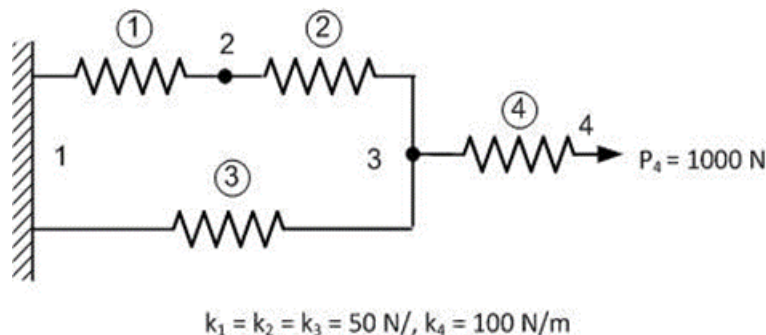

Figure 1 (All Dimensions of spring are N/m)
- (c) Using minimum potential energy method or Direct stiffness method, Find the nodal displacements and deflection of the spring assemblage shown in fig 1. **07**